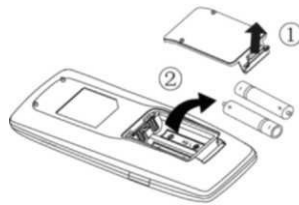

Fig. 1
- (1) Lift the cover in the direction of the arrow (as shown in Fig. 1 (1)).
- (2) Take out the original batteries (as shown in Fig. 1 (2)).